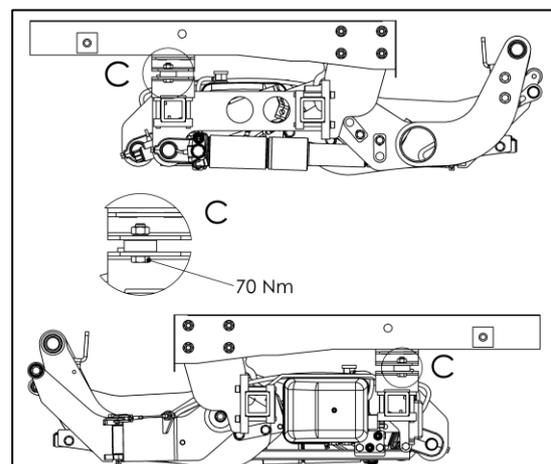

Fig. 35
- Secure the front installation adapters to the lifting gear and tighten to a torque of 70 Nm (see Fig. 35).